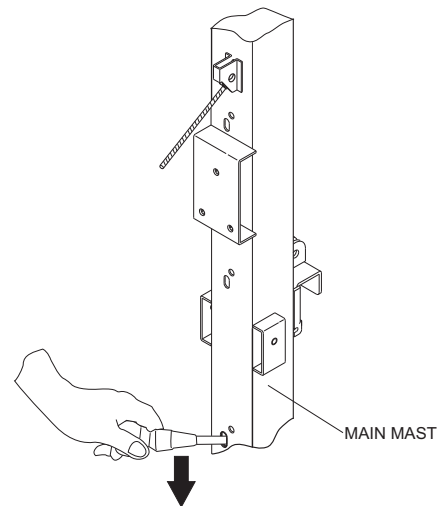

Figure 35. Releasing the Safety Stop Latches
5. To release the safety stopper without pulling the cable wire when removing the second mast from the first (main mast), insert a screwdriver (Figure 35) nearest the hole where the latch is caught. Press down on the screwdriver to lift the pulley inside the second mast upward. Remove the screwdriver lifting the second mast upwards as the latch is being pulled back. The second mast should now be able to be pulled out from the first mast.